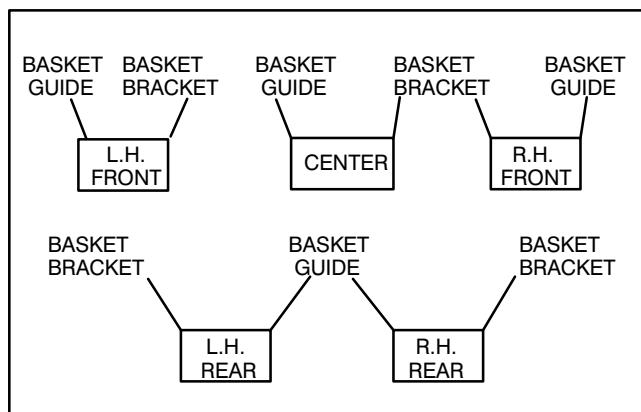
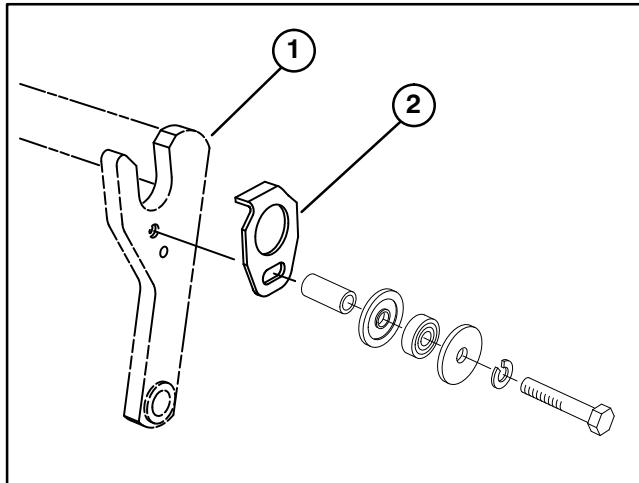
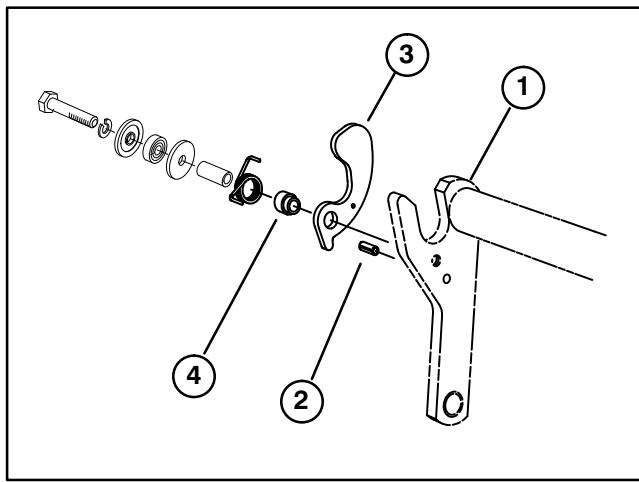

Figure 7
Figure 8
Figure 9
2. If baskets will be installed, use chart below (Fig. 7) to determine locations at which basket guides or basket brackets must be mounted to cutting unit carrier frames. If baskets are not to be installed, proceed to step 7.
3. Remove hardware securing Turf compensation kit to each end of carrier frame (Fig. 8 & 9) and reuse when installing basket guides and basket brackets.
4. Mount a basket guide (Fig. 8) to the appropriate side of each cutting unit carrier frame (see figure 7) with a 5/16–18 x 1–3/4" lg. capscrew, flatwasher and lockwasher or fasteners previously removed, as shown in figure 8.
5. Install a roll pin (Fig. 9) into hole in appropriate side of each cutting unit carrier frame (Fig. 7).
6. On the same side of carrier frame as roll pin is installed, mount a basket bracket with a 5/16–18 x 1–3/4" lg. capscrew, lockwasher, flatwasher, torsion spring, basket collar or fasteners previously removed, as shown in figure 9. Torsion springs are different for L.H. and R.H. sides of carrier frames. Three are (2) L.H.